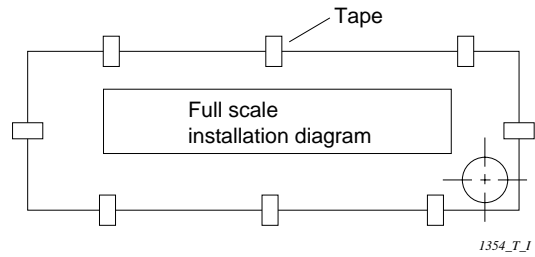

Fig. 3-24
- (1) Tape the full-scale installation diagram on the wall at the location selected. Make sure the unit is horizontal, using a level or tape measure to measure down from the ceiling. (Fig. 3-24)
- (2) Determine if the hole is to be drilled at the left or right hole location.
- (3) Before drilling a hole, check that there are no studs or pipes behind the determined location.